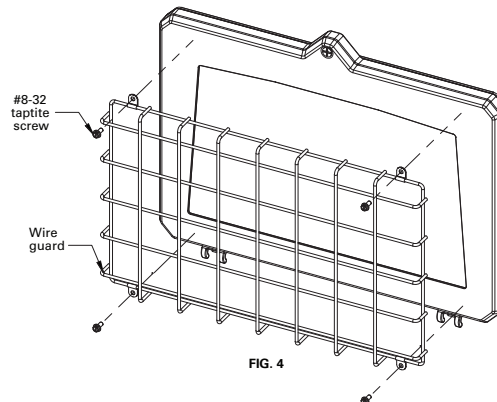

FIG. 4
4. Install wire guard on the door with #8-32 Taptite screws (provided) **FIG 4**. Re-secure door to link chain. Re-install door by tightening door screw until it comes to a stop.